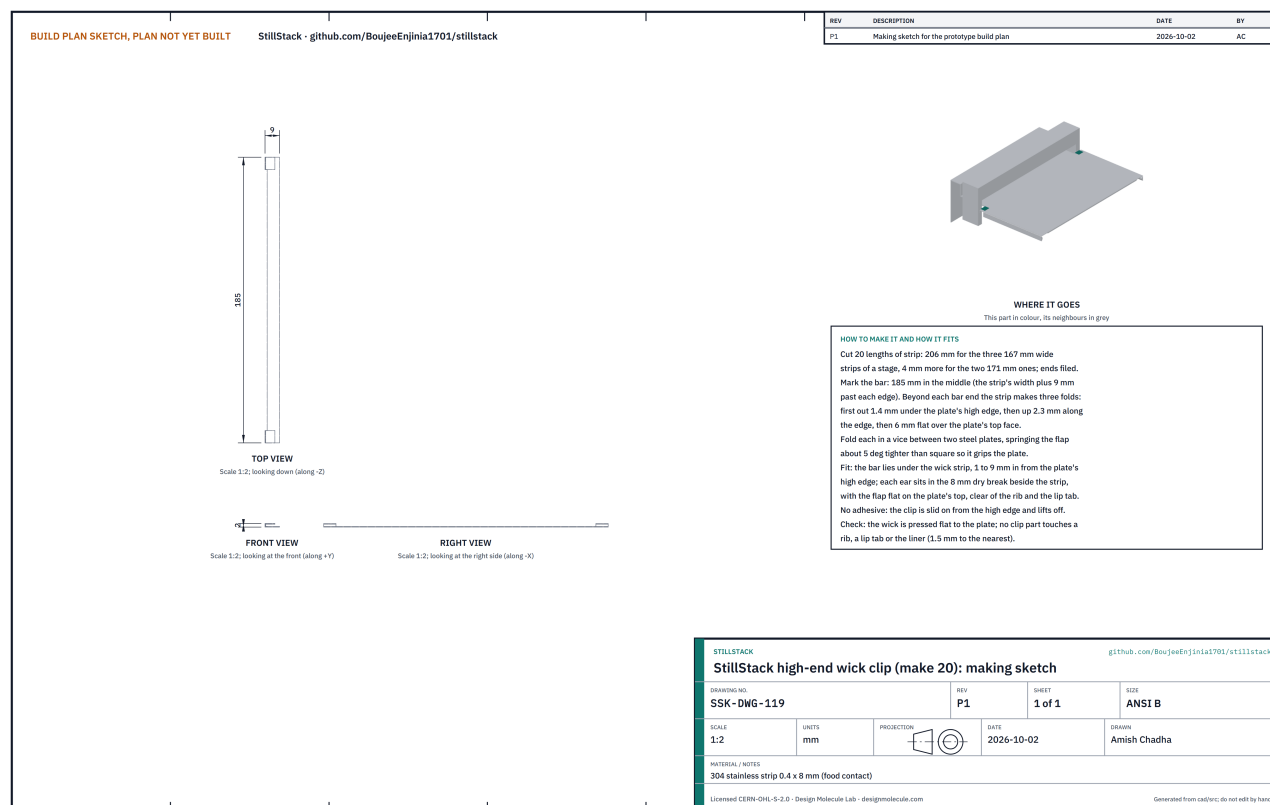

Figure 24. High-end wick clip making sketch (SSK-DWG-119): a 0.4 x 8 mm stainless strip, shown for the centre strip of a stage.
- Lay the plate face down on a clean table. Slide a high-end clip (Figure 24) onto each strip so its bar lies under the wick and its ears hook round the plate edge in the dry breaks beside the strip, then slide a tongue clip (Figure 25) onto the brine tongue so it holds the tail centred under the tongue. Use no adhesive, so the wicks lift out for rinsing.